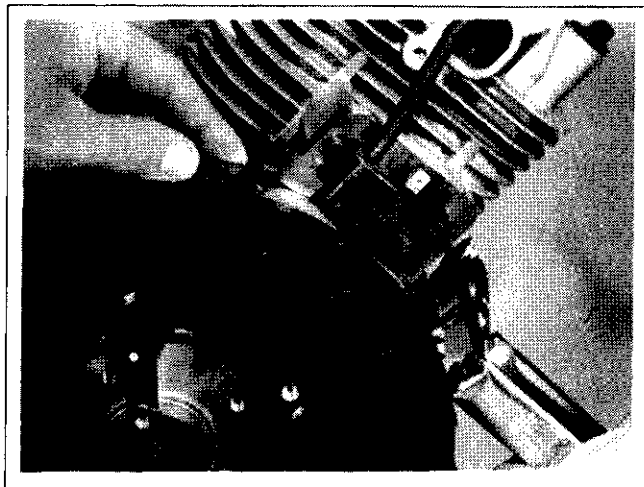

Figure 11-44. Checking Air Gap of Ignition Modules.
4. Insert a **0.25 mm (0.010 in.)** flat feeler gauge or shim stock between the magnet and ignition module (see Figure 11-44). Loosen the screws enough to allow the magnet to pull the module down against the feeler gauge.